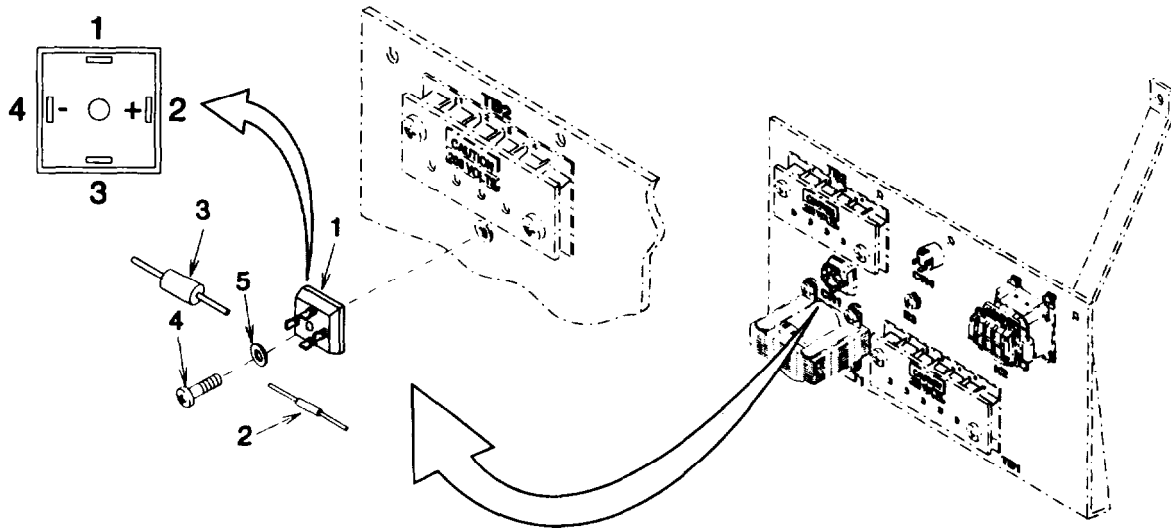
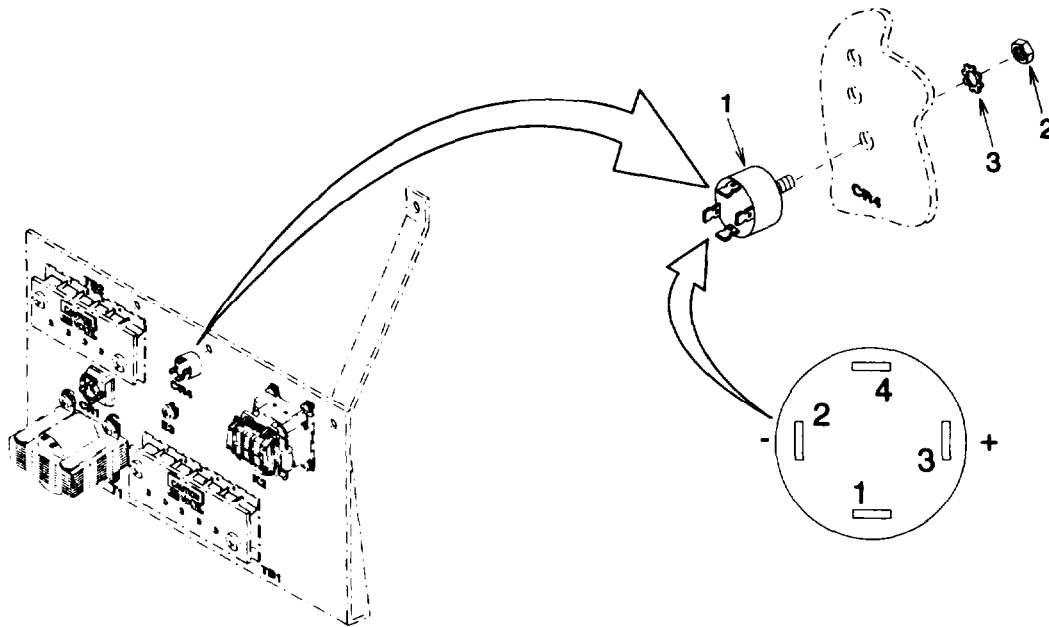

Figure 3-45. Rectifier (CR1) and Capacitors (C1 and C2)
Figure 3-46. Rectifier (CR4)
(1) Rectifier (CR1) and Capacitors (C1 and C2) Removal.
- (a) Tag and disconnect wire leads from rectifier (1) Figure 3-45 terminals. See paragraph 3-19.
- (b) Tag and disconnect capacitors (2) and (3) from rectifier (1) terminals. See paragraph 3-19.
- (c) Remove screw (4), flat washer (5), and rectifier (1).
(2) Rectifier (CR4) Removal.
- (a) Tag and disconnect wire leads from rectifier (1) Figure 3-46 terminals. See paragraph 3-19.
- (b) Remove nut (2), lock washer (3), and rectifier (1).
b. Testing.(1) Rectifier (CR1) Testing.
- (a) Using a multimeter set to measure resistance, perform the following checks on rectifier (1) Figure 3-45.
- (b) Replace rectifier (1) if defective.
(2) Rectifier (CR4) Testing.
- (a) Using a multimeter set to measure resistance, perform the following checks on rectifier (1) Figure 3-46.
- (3) Capacitor (C1) Testing. Using a capacitance meter set to measure capacitance in pico Farads, measure between capacitor (2) Figure 3-45 terminal leads. A capacitance of between 9,000 and 11,000 pF should be indicated. Replace capacitor if defective.
- (4) Capacitor (C2) Testing. Using a capacitance meter set to measure capacitance in micro Farads, measure between capacitor (3) Figure 3-45 terminal leads. A capacitance of between 110 and 130  $\mu$ F should be indicated. Replace capacitor if defective.
(1) Rectifier (CR1) and Capacitors (C1 and C7) Installation.
- (a) Install rectifier (1) Figure 3-45, screw (4), and flat washer (5).
(2) Rectifier (CR4) Installation.
- (a) Install rectifier (1) Figure 3-46, lock washer (3), and nut (2).